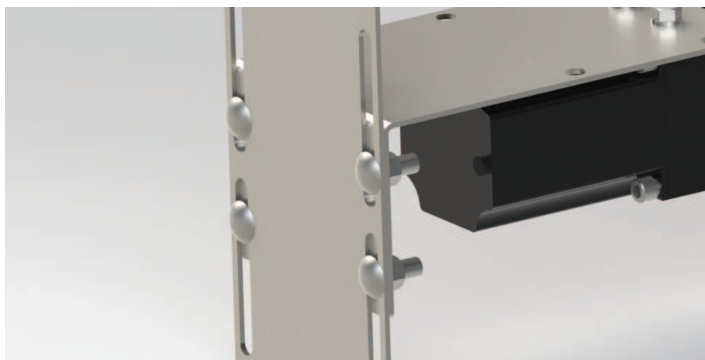

FIG. 4C
4-4: Use (4) 3/8" carriage bolts and nuts to fasten the slots in the rear extension bracket to the 4 holes in the rear mounting bracket. (FIG. 4C)